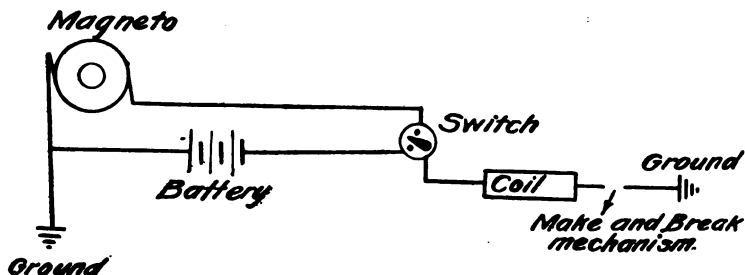

FIG. 29.—Circuit for Make and Break Ignition.
1. **Make-and-Break System.** This system, which is a mechanico-electrical one requiring cam or other gearing to make and break a contact inside the cylinder, is applicable to slow speed engines, and for this special duty has some advantages over the jump spark. A moving contact in the electrical circuit is mechanically made and broken inside the cylinder. At the *break* a spark will leap between the contacts igniting the mixture. This system admits of two methods, depending upon the kind of plug used in the cylinder: (1) wipe spark; (2) the hammer break. By the first method the plug contacts are made to brush together and by the second the contacts are brought together sharply and separated. The wiring for both methods, shown in Fig. 29, is similar. A small coil is employed to step up the current, but no vibrator is used as this would cause a spark to occur at